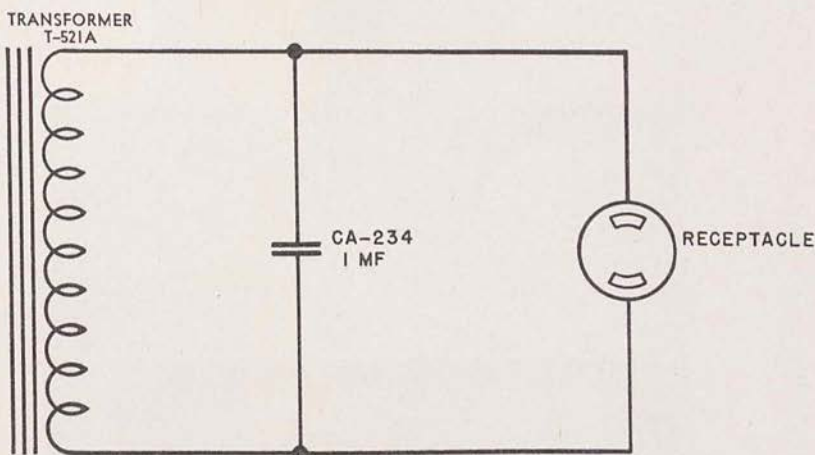

FIG. 6 CONVERTER M-222, FUNCTIONAL DIAGRAM OF OUTPUT CIRCUIT
b. Output circuit.—The output circuit consists of the transformer secondary, one buffer Capacitor CA-234, and the receptacle (No. 7255). The reversal of direction of flow in the primary produces alternating flux in the transformer core, thus producing alternating current in the secondary. The buffer Capacitor regulates the manner in which the flux decays in the transformer core during the off intervals of the vibrator. The receptacle (No. 7255) is connected across the output of the transformer. (See figure 6.)